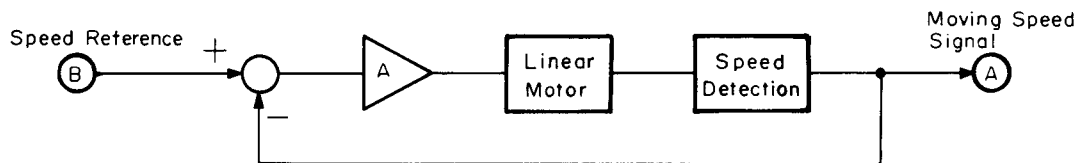

Fig. 1
The voltage at point (B) is the same as the voltage driving the pickup carry motor in a conventional mechanism and can be represented to a servo block diagram as shown in Figure 1. which manifests a direct feed-back system.